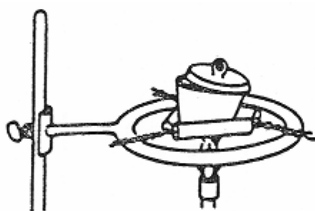

Figure 6 Position of crucible cover for 10 minute heating.
- Replace the cover on the crucible. Allow about one quarter of the crucible to be open to the atmosphere as shown in Figure 6. Heat the covered crucible strongly for 10 minutes.
- Allow the crucible to cool for 5 minutes. Remove the crucible cover and place the cover on the wire gauze. Using a dropping pipet, add 10 drops of distilled water to the crucible. Be careful not to lose any of the white fluffy solid. Replace the cover on the crucible as shown in Figure 6.